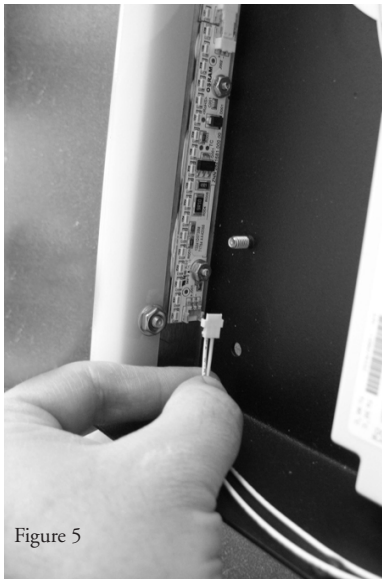

Figure 5
Step 6 Replace the dimming module and bracket (if applicable) into position and secure with thumb knobs. Make sure that none of the wire connectors have been disconnected at the LED modules. These connectors are delicate and can be disconnected if disturbed. (See Figure 5)